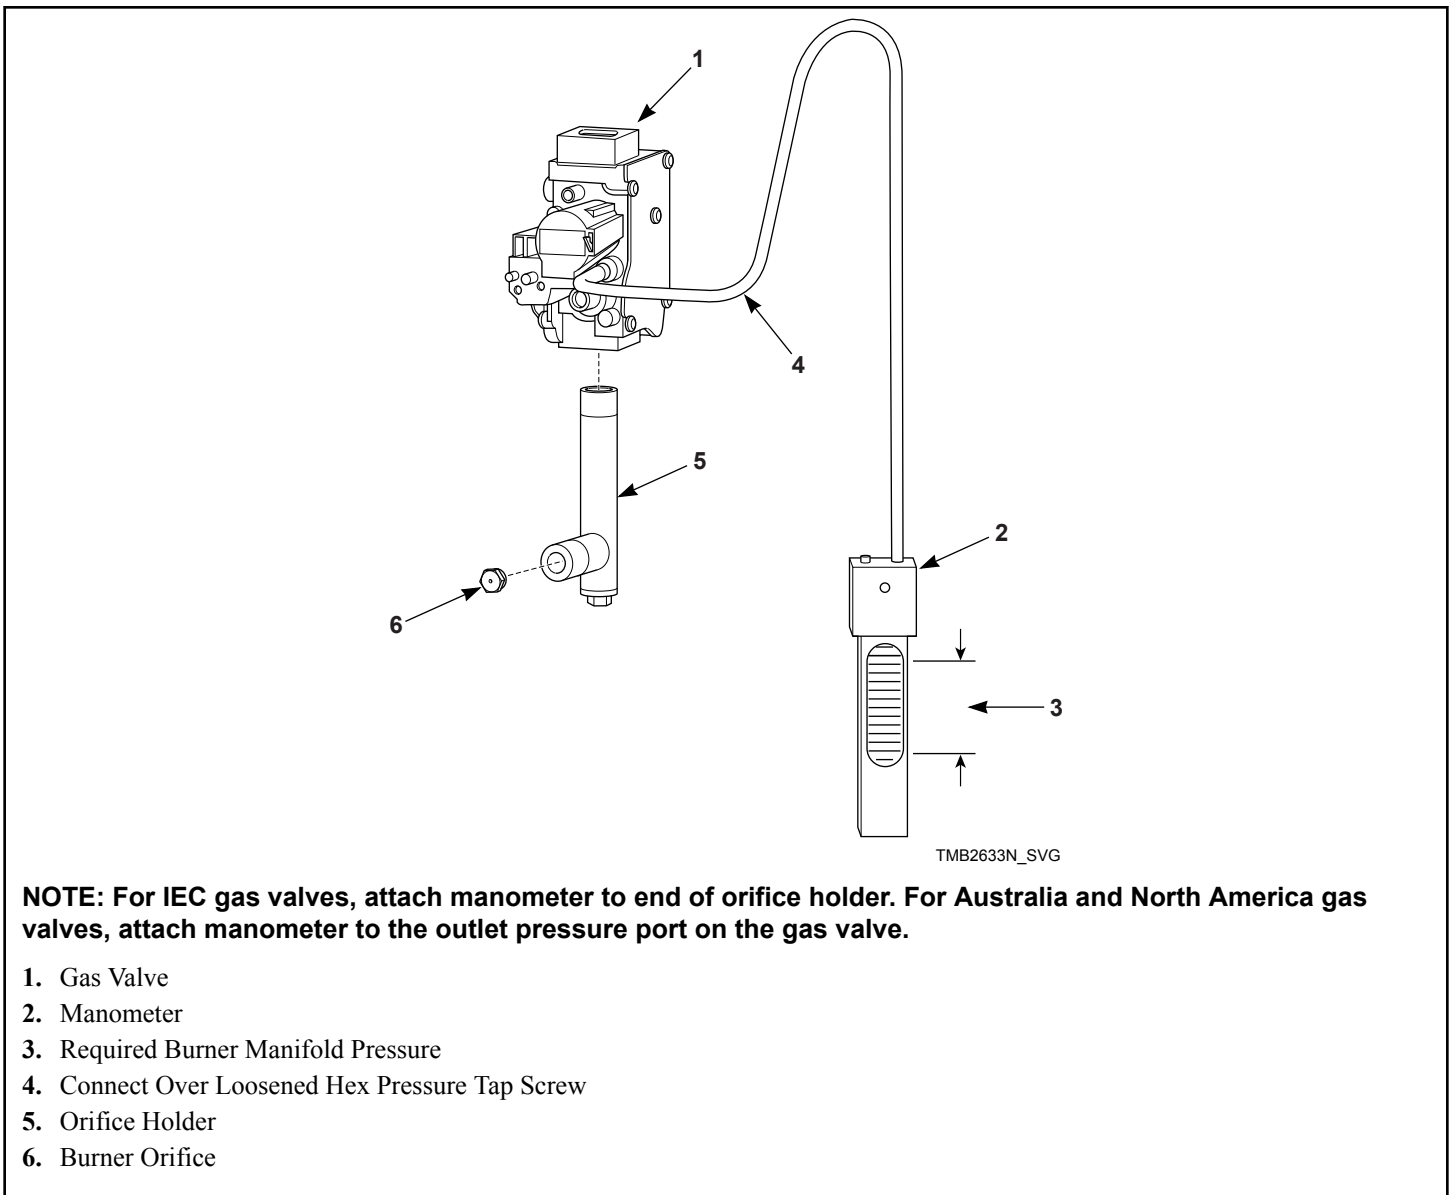

Figure 16
2. Remove orifice holder. Unscrew orifice holder nut near gas valve. Remove the burner orifice(s) from orifice holder. Refer to *Figure 16* .
1. Check gas burner orifice (manifold) pressure as follows. Refer to *Figure 16*.
4. Start tumble dryer and note pressure once flame is burning. Remove regulator cap and adjust regulator screw until the burner orifice pressure per applicable table is achieved. Replace regulator cap. Refer to *Figure 16*.